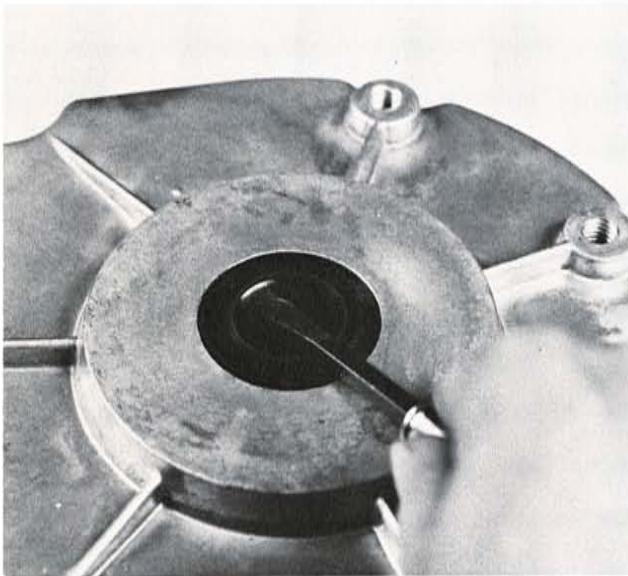

Fig 16
16. Remove seals in outer cases. (Fig 16)